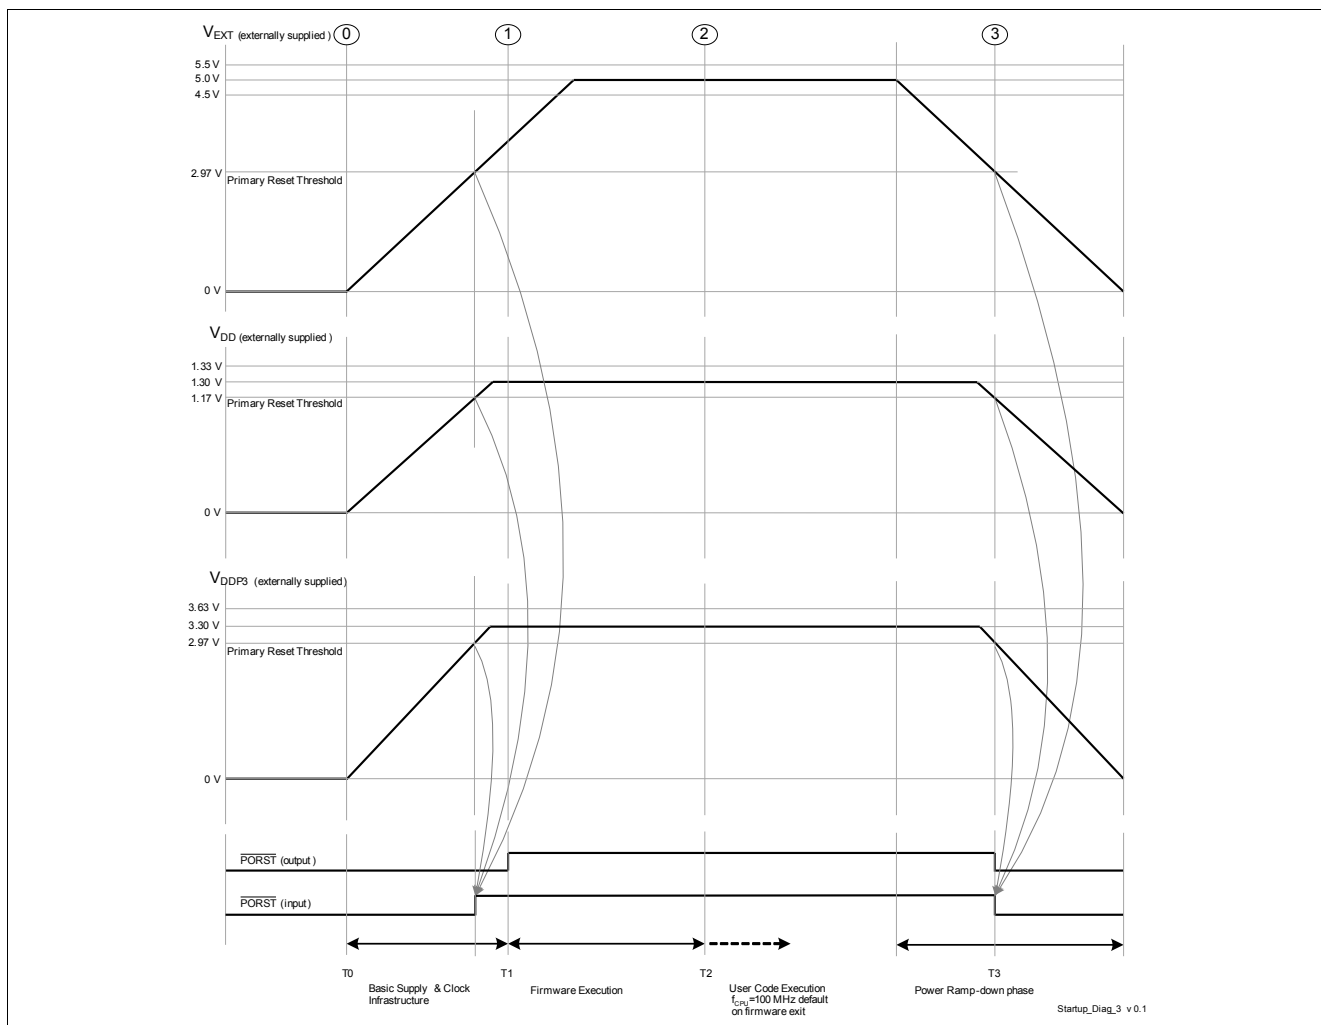

Figure 3-6 External Supply Mode - 5 V, 3.3 V & 1.3 V externally supplied
- The power sequence as shown in Figure 3-6 is enumerated below